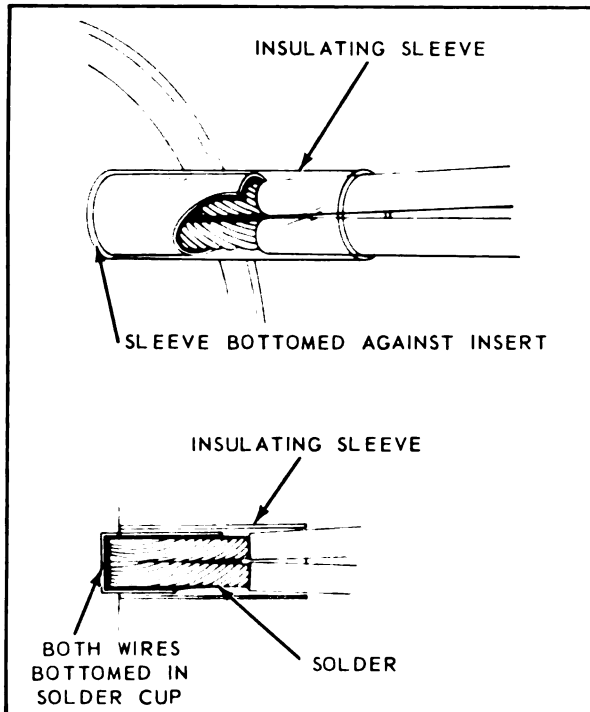

Figure 3-80. Terminating Two Wires at One Contact
a. If both wires can be fitted into contact solder cup, proceed as with single wire. Slide insulating sleeve over both wires together and insert them into solder cup. Make sure all strands are inside cup before soldering. When solder has cooled push insulating sleeve down until it butts against insert. See figure 3-80.